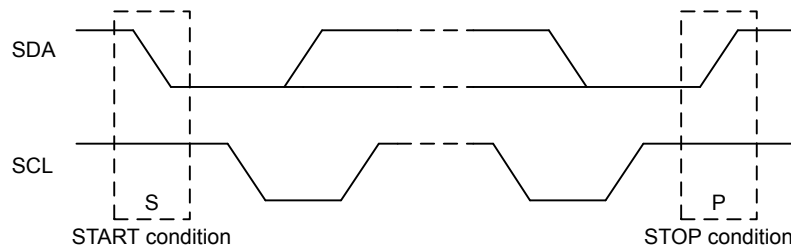

Figure 17.4. I2C START and STOP Conditions
START and STOP conditions are used to initiate and stop transactions on the I²C-bus. All transactions on the bus begin with a START condition (S) and end with a STOP condition (P). As shown in Figure 17.4 I2C START and STOP Conditions on page 504, a START condition is generated by pulling the SDA line low while SCL is high, and a STOP condition is generated by pulling the SDA line high while SCL is high.